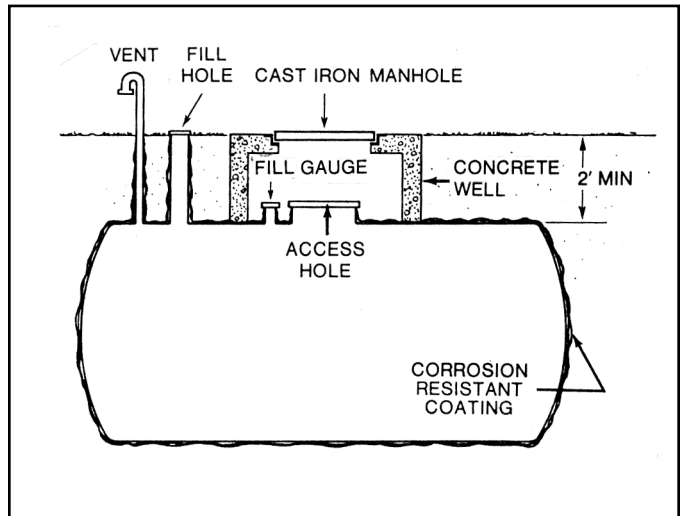

Figure 10. Typical example of properly installed underground fuel tank
- Underground tanks (Figure 10) are to be buried at least 2 feet below grade.